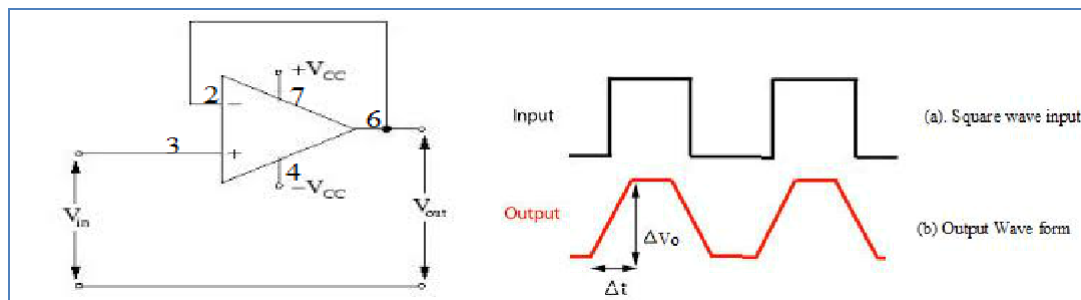

Fig.1.3: Circuit Diagram to measure slew rate
1. Connect unity gain amplifier circuit as shown in Fig. 1.3